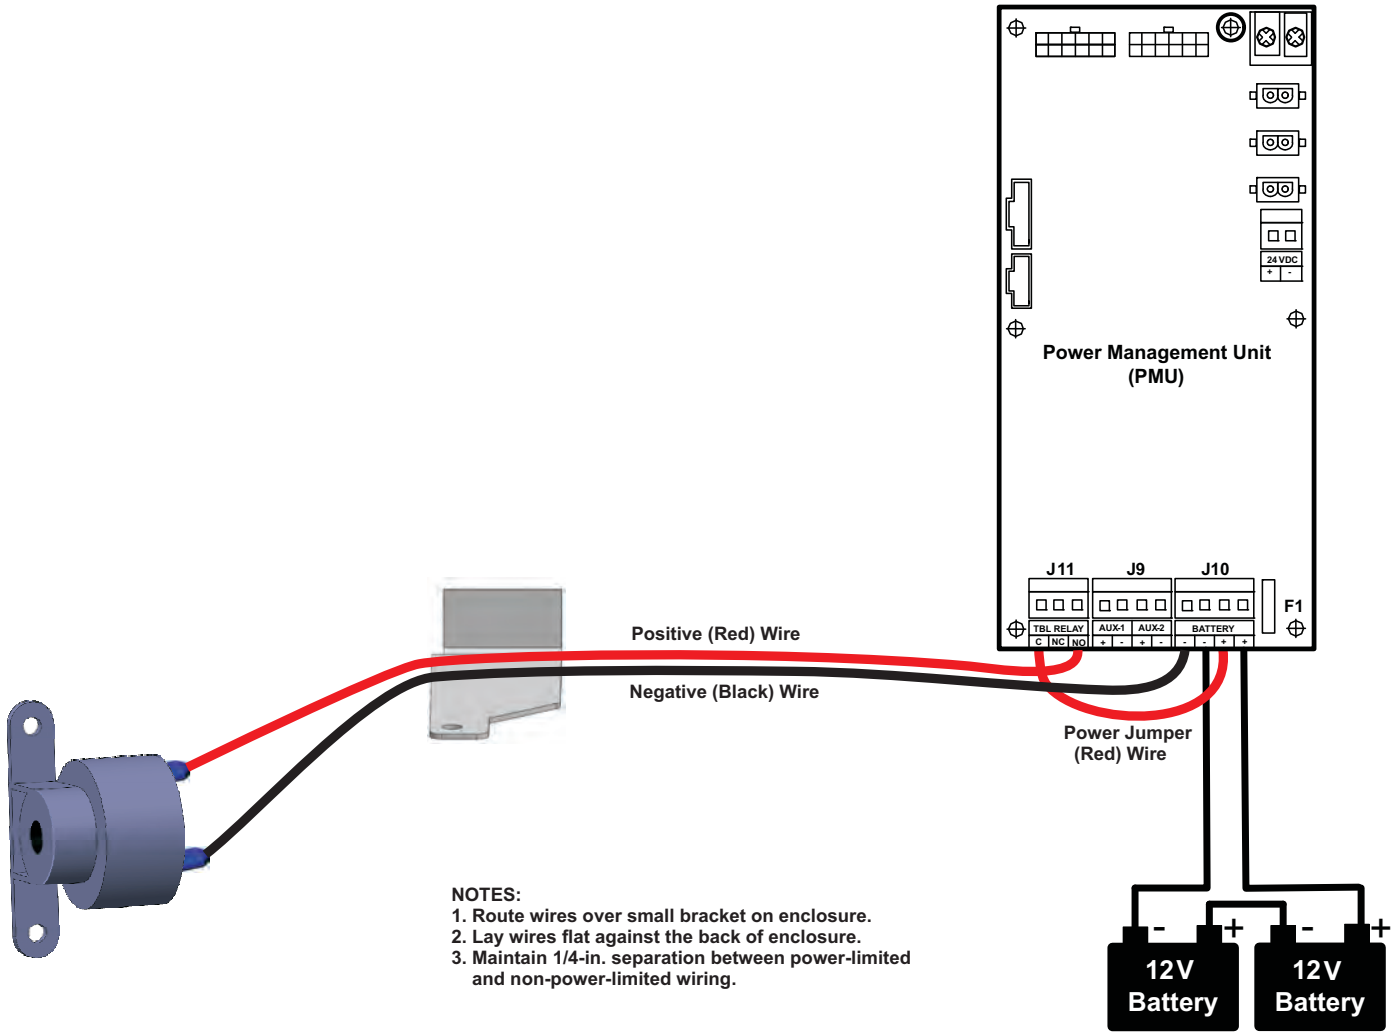

Figure 2-11. Audible PMU Trouble Sounder Wiring Diagram
4. Next, connect wires from the Audible PMU Trouble Sounder to the PMU Board. Refer to the wiring diagram shown in Figure 2-11.
**Note:** A suggested method is to route the wires from the Audible PMU Trouble Sounder over the small bracket attached to the enclosure. Refer to the wiring diagram shown in Figure 2-11.